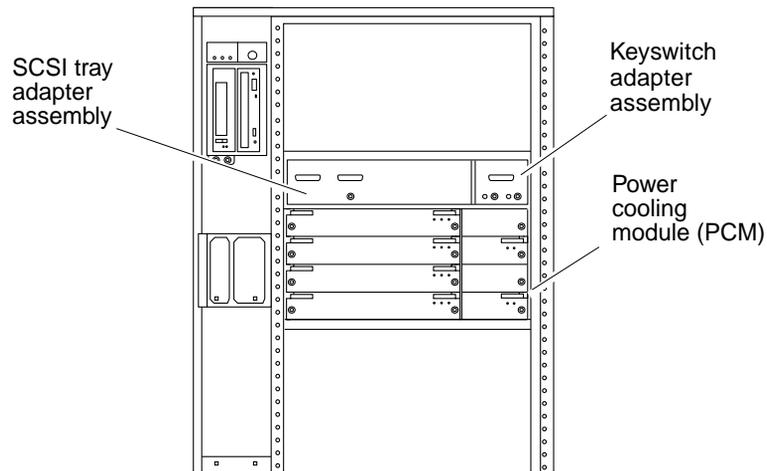

FIGURE 1-4 Sun Enterprise 5000—Front View
1. Place the SCSI tray adapter assembly (FIGURE 1-3) and the keyswitch adapter assembly (FIGURE 1-4) in the front of the system.